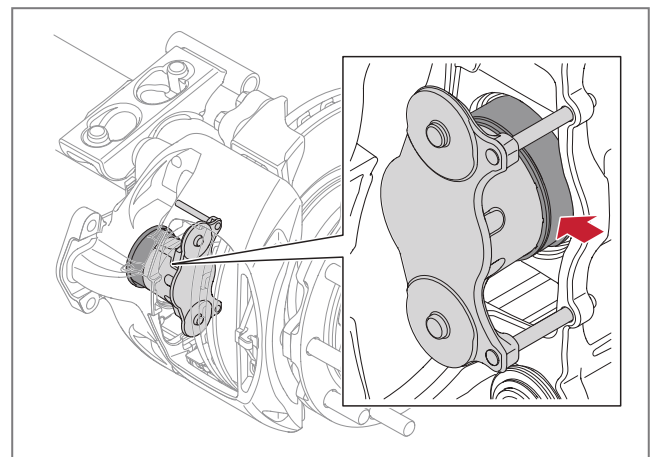

Fig. 30 - Inspect the adjustment screw bellows
3. Inspecting the adjustment screw bellows, see ► Fig. 30. Inspect all around the bellows for signs of damage as a result of debris, stones or overheating.